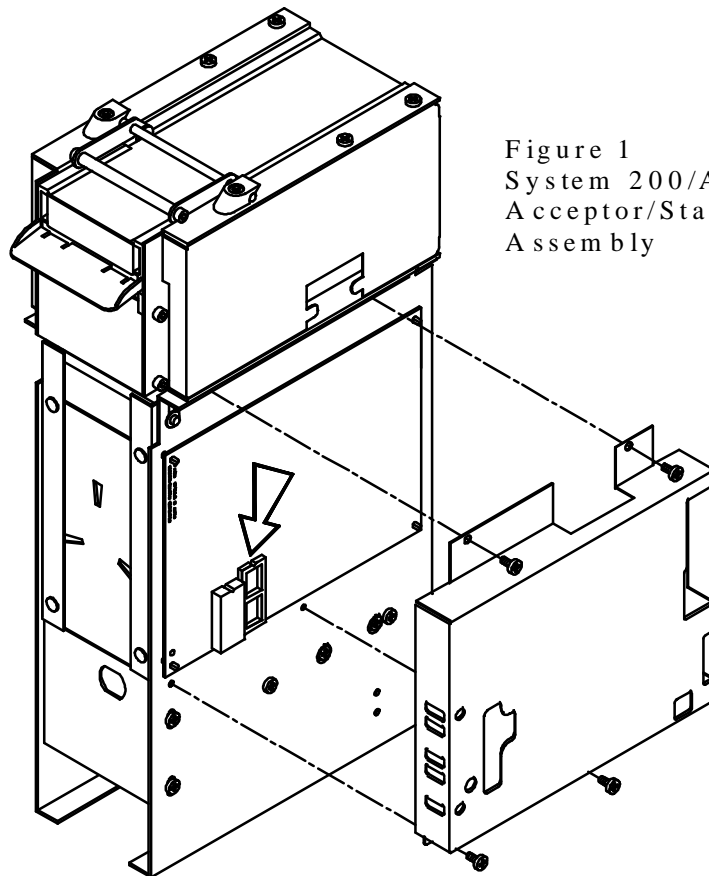

Figure 1
3. Remove the MCU cover by removing the 4 Phillips screws as shown in Figure 1.
4. Remove the Program Chip in the Stacker/Acceptor assembly by gently prying it out with a small straight edge screwdriver. The location of the chip is pointed out by the arrow in Figure 1. (This chip is static sensitive and needs to be handled with care).
5. Carefully insert the new Program Chip. **THIS MUST BE INSERTED WITH THE NOTCH ON THE CHIP FACING UP AS INDICATED BY THE ARROW IN FIGURE 1.** (Place the original Program Chip into the protective case for safe keeping).